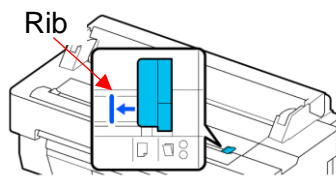
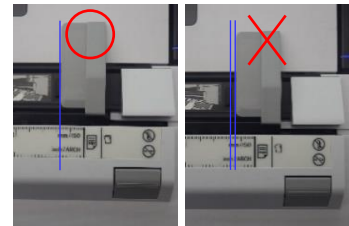

Fig. 1 Slide the edge guide to the rib
Fig. 2 Edge guide correct position (right)
1. Find the raised line on the black rail of the printer. Place the edge guide to the right of the line, then align the left side of the edge guide to the raised line (Fig. 1). Do not leave any space between the edge guide and raised line. (Fig 2).